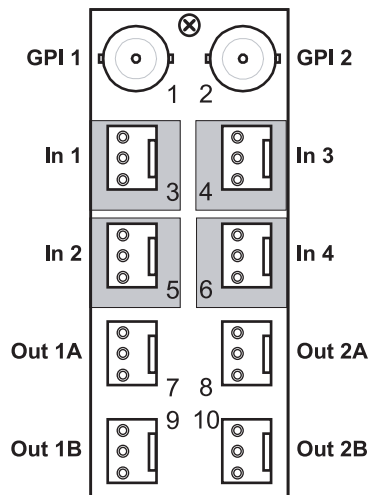

Figure 2.3 Cable Connections for the 8310AR-034 and 8320AR-034 Rear Modules
- **8310AR-034** Rear Module — This module includes two BNC connectors and eight AES connectors. When using this module, connect the input and output cables according to **Figure 2.3**. The inputs are internally terminated in 110 ohms. It is not necessary to terminate unused outputs.
- **8320AR-034** Full Rear Module — Each card occupies two slots and includes two BNC and eight AES connectors. (**Figure 2.3**)